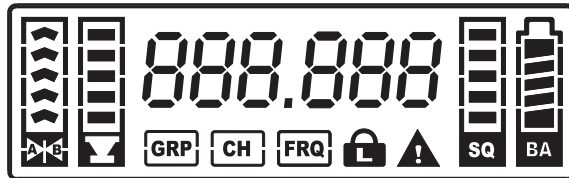

Fig. 10
- ②0 GRP Group icon.
- ②1 CH Channel icon.
- ②2 FRQ Frequency icon.
- ②3 Lock mode icon, lights at locked.
- ②4 Interference warning icon, lights at interferenced.
- ②5 SQ Squelch Level: Indicate Sensitivity Level.
- ②6 Transmitter Battery Level, indicate current transmitter battery level.
- ②7 RF Signal Level, indicate RF signal strength from the transmitter.
- ②8 Audio Signal Level, indicate audio signal strength from transmitter.
- ②9 Channel & Frequency Display, displays Group/Channel & Frequency.
2、LCD Screen displays all Parameter Values. Fig. 10